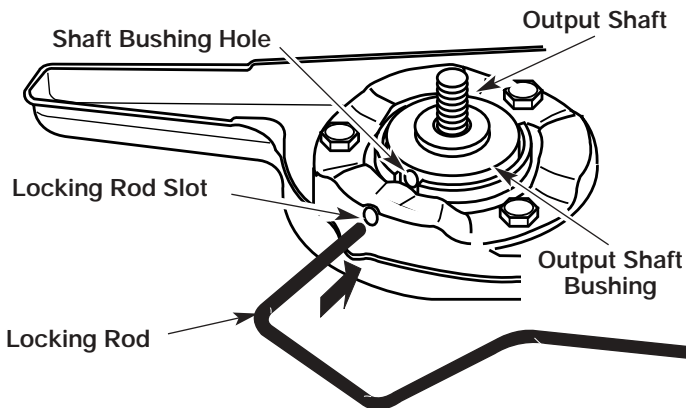

Fig. 14
1. Align the shaft bushing hole with the locking rod slot and insert the locking rod into the bushing hole (Fig. 14).
- Align the shaft bushing hole with the locking rod slot and insert the locking rod into the bushing hole (Fig. 14).